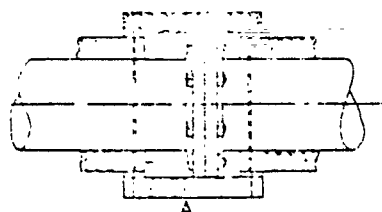

FIGURE 11
7.3 Line flanges shall be insulated with block or pipe insulation equal in thickness to the adjacent pipe insulation. The length to be in accordance with Figure 11 and Table 2.